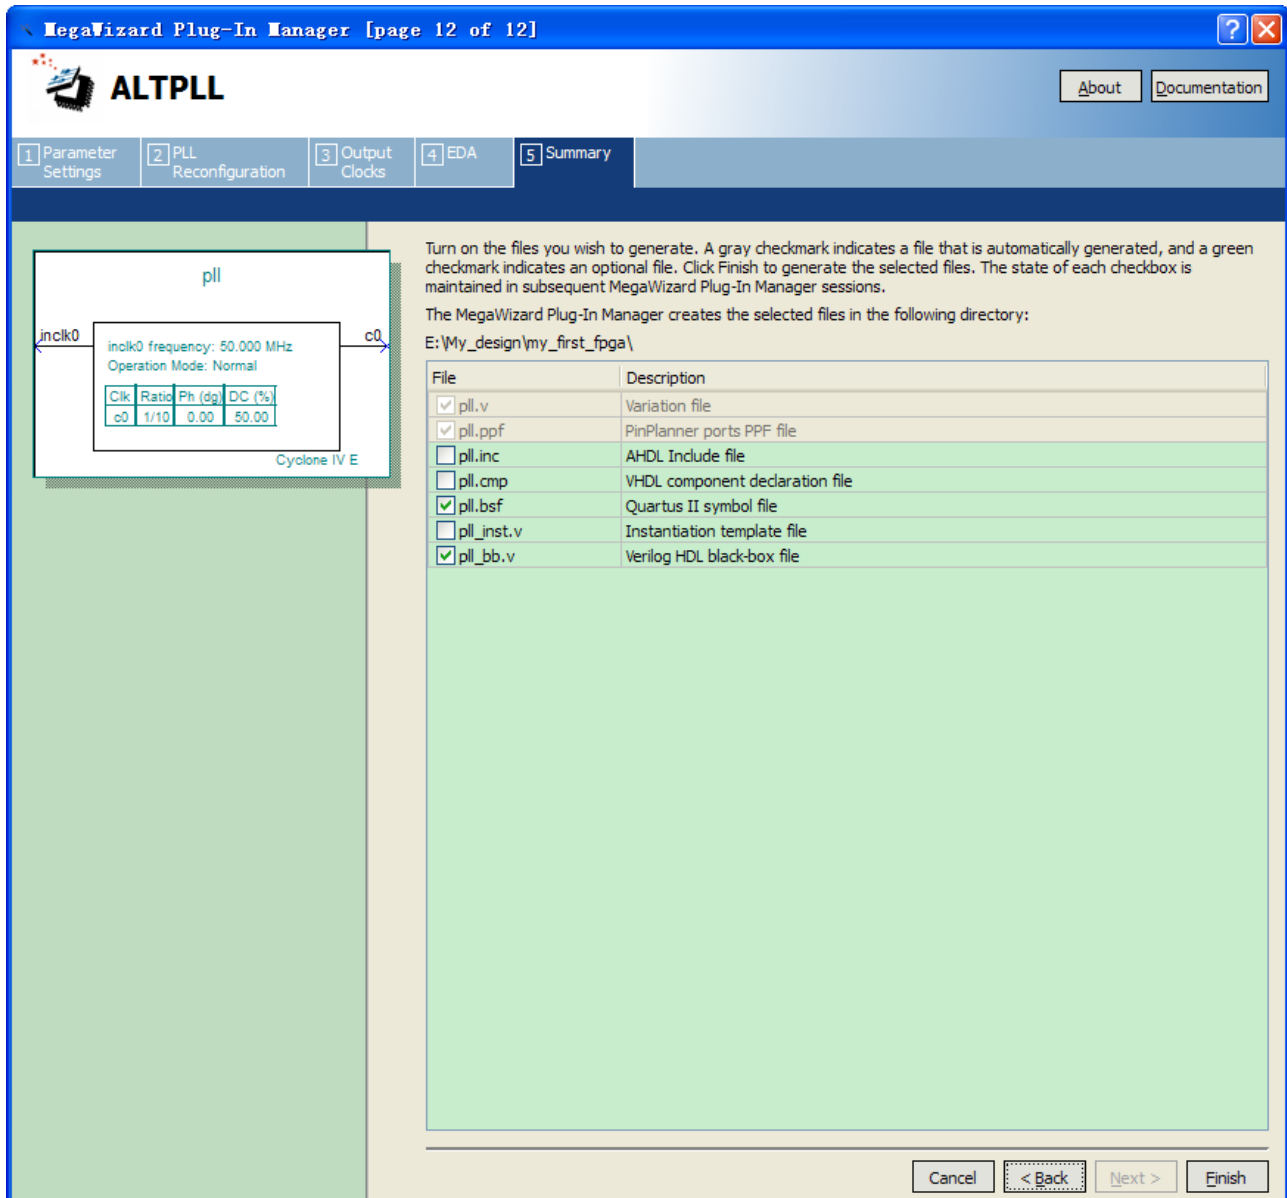

Figure 6-24 Wizard-Created Files
10. The wizard displays a summary of the files it creates (see **Figure 6-24**). Select the pll.bsf option and click Finish again.